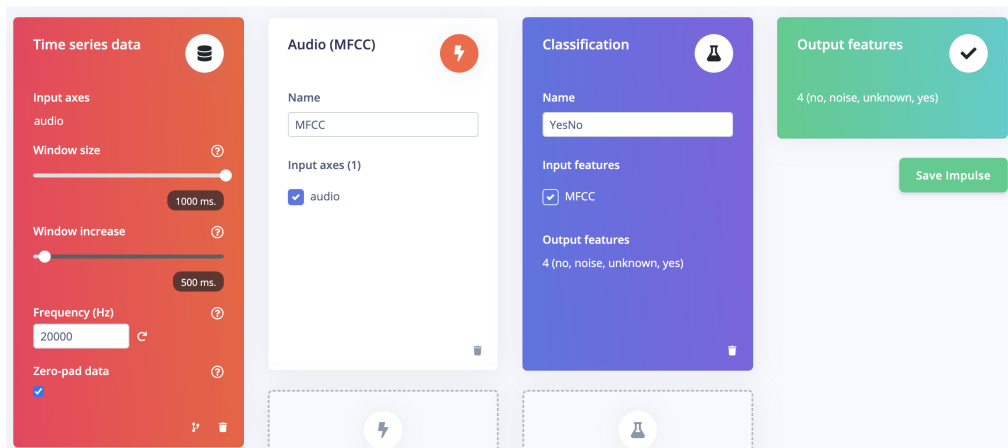

Figure 9.3: The impulse setup should look similar to this. Note the frequency is 20kHz.
12. The impulse should look like what is shown in Figure 9.3